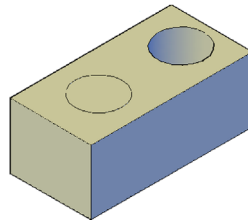

FIGURE 25.18 Copy faces applied to hole.
Step 2. You are prompted for a base point to copy *from* and a second point to copy *to*. However, you have to be careful in how you apply this command. If you copy the extruded hole, the new hole is not a solid and cannot be subtracted. What you get is shown in Fig. 25.18.